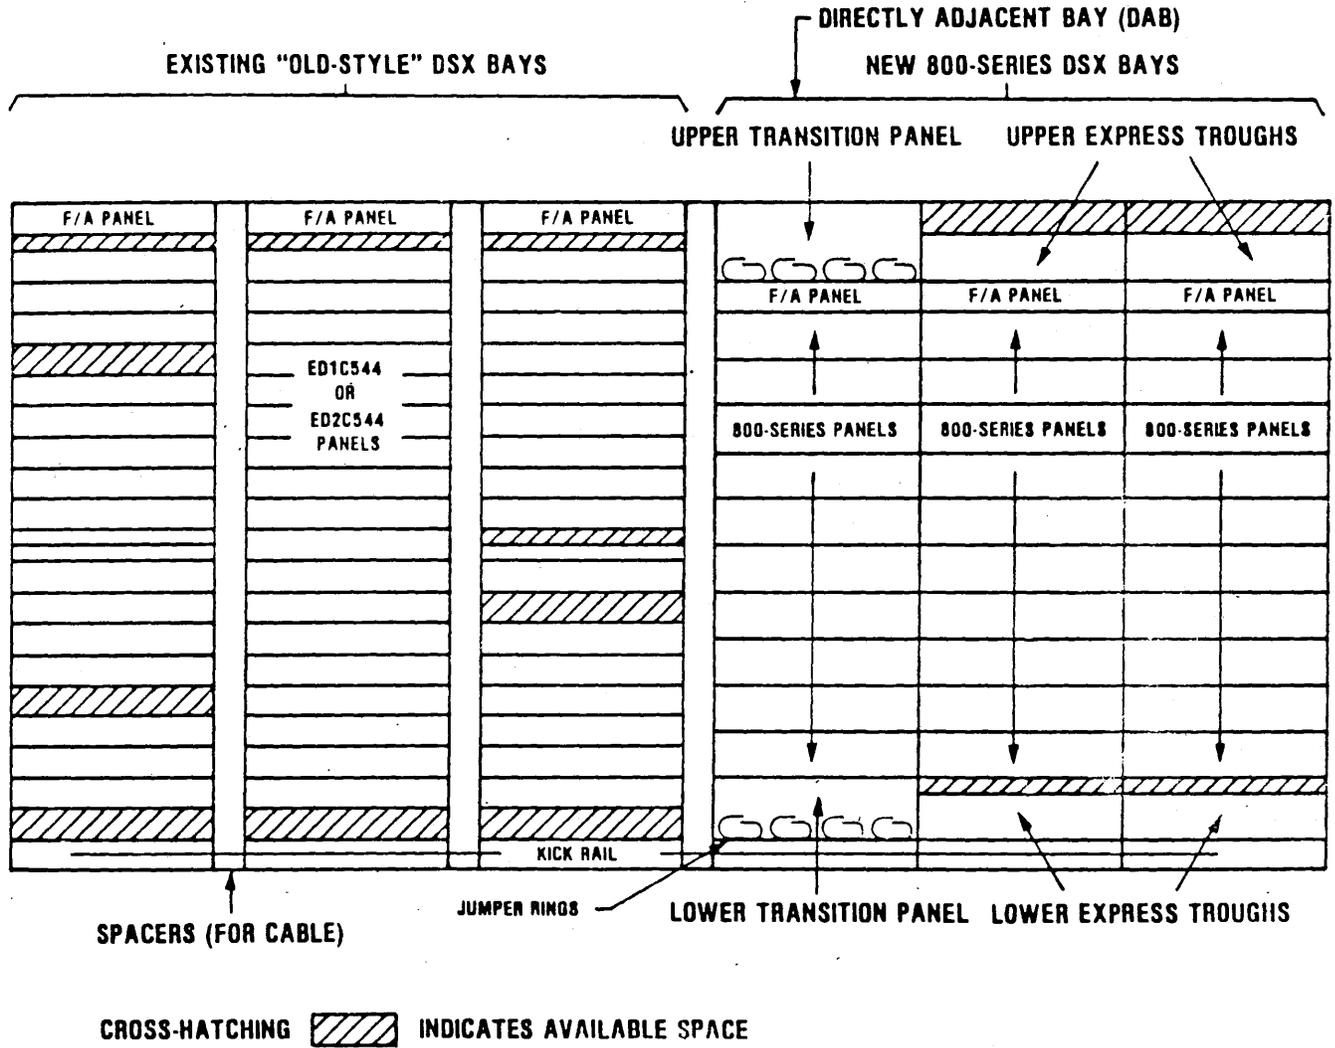

Fig. 2—Layout of Lineup After Adjacent Application
3.03 The DAB has transition panels installed in place of the upper and lower express troughs. These transition panels allow a back-running jumper from one of the old-type bays in the lineup to be passed through to the front of the bay. Jumper rings in the transition panels retain the back-to-front jumpers. All other bays added subsequently to the DAB have the standard 800-series configurations (Fig. 2).